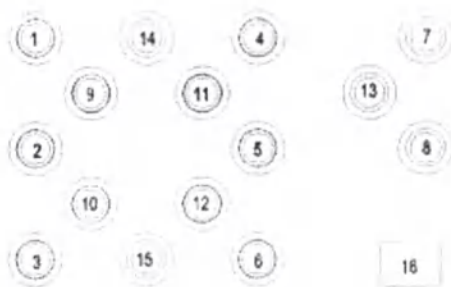

Рисунок 1-2. Test positions
1. Coagulation method: five test positions are used to perform it: 9, 10, 11, 12 and 13, as shown in Figure 1-2. The wavelength is 660 nm.
2. Chromogenic method: one position is involved. The test wavelength is 405 nm, marked in Figure 1-2 with the number 14.
3. Immunoturbidimetric method: one position is involved. The test wavelength is 575 nm, marked in Figure 1-2 with the number 15.
4. 8 incubation positions, marked in Figure 1-2 with the numbers 1-8.
5. The position of the discharge of spent cuvettes is marked in Figure 1-2 with the number 16.